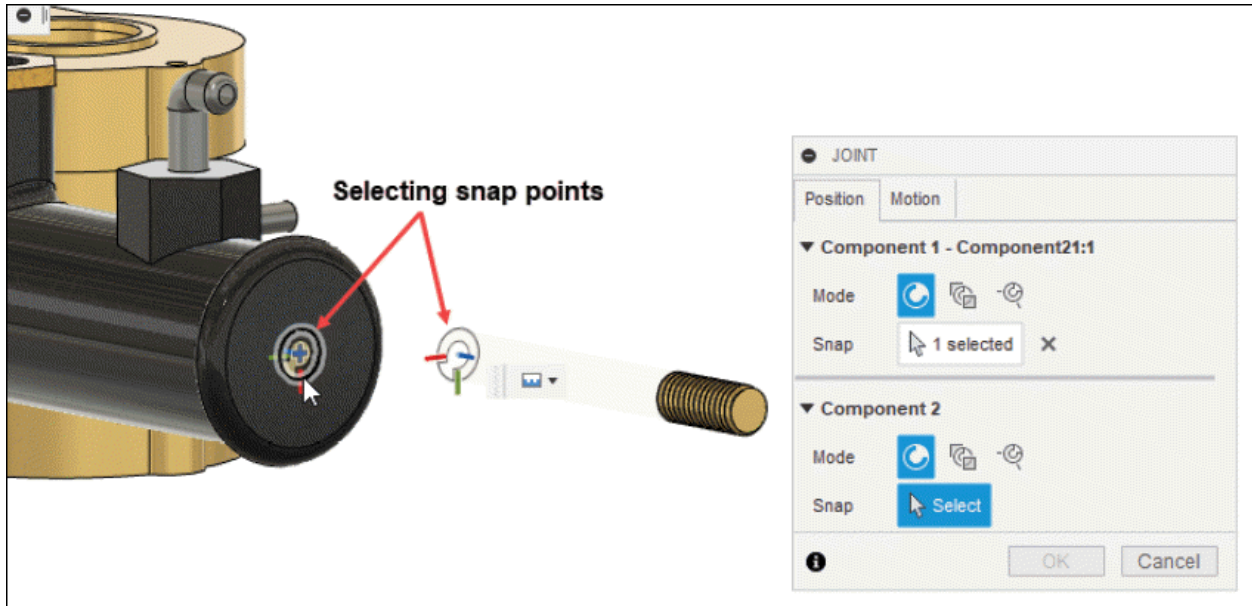

Figure-94. Selecting snap point on components
- Select snap point on both Component 1 and Component 2 as shown in Figure-94.